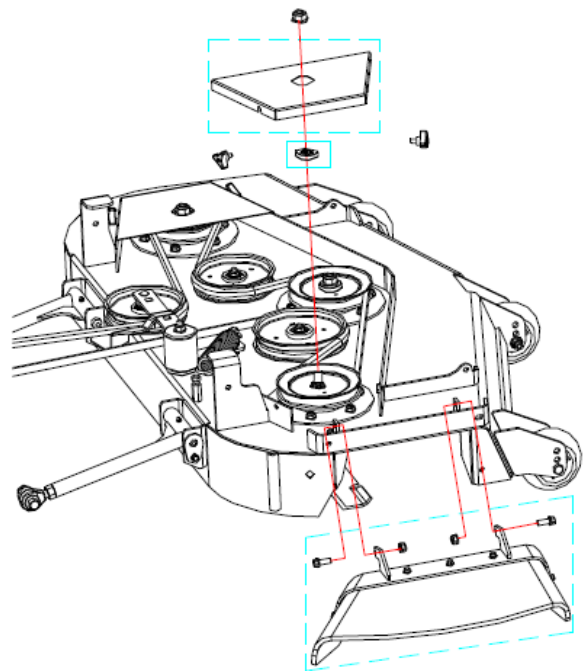

FIG 1
- a) Remove the side discharge chute, bushing, and belt cover (FIG 1) from the mower deck. **Note:** Keep the parts shown in broken line in a bag for later use.